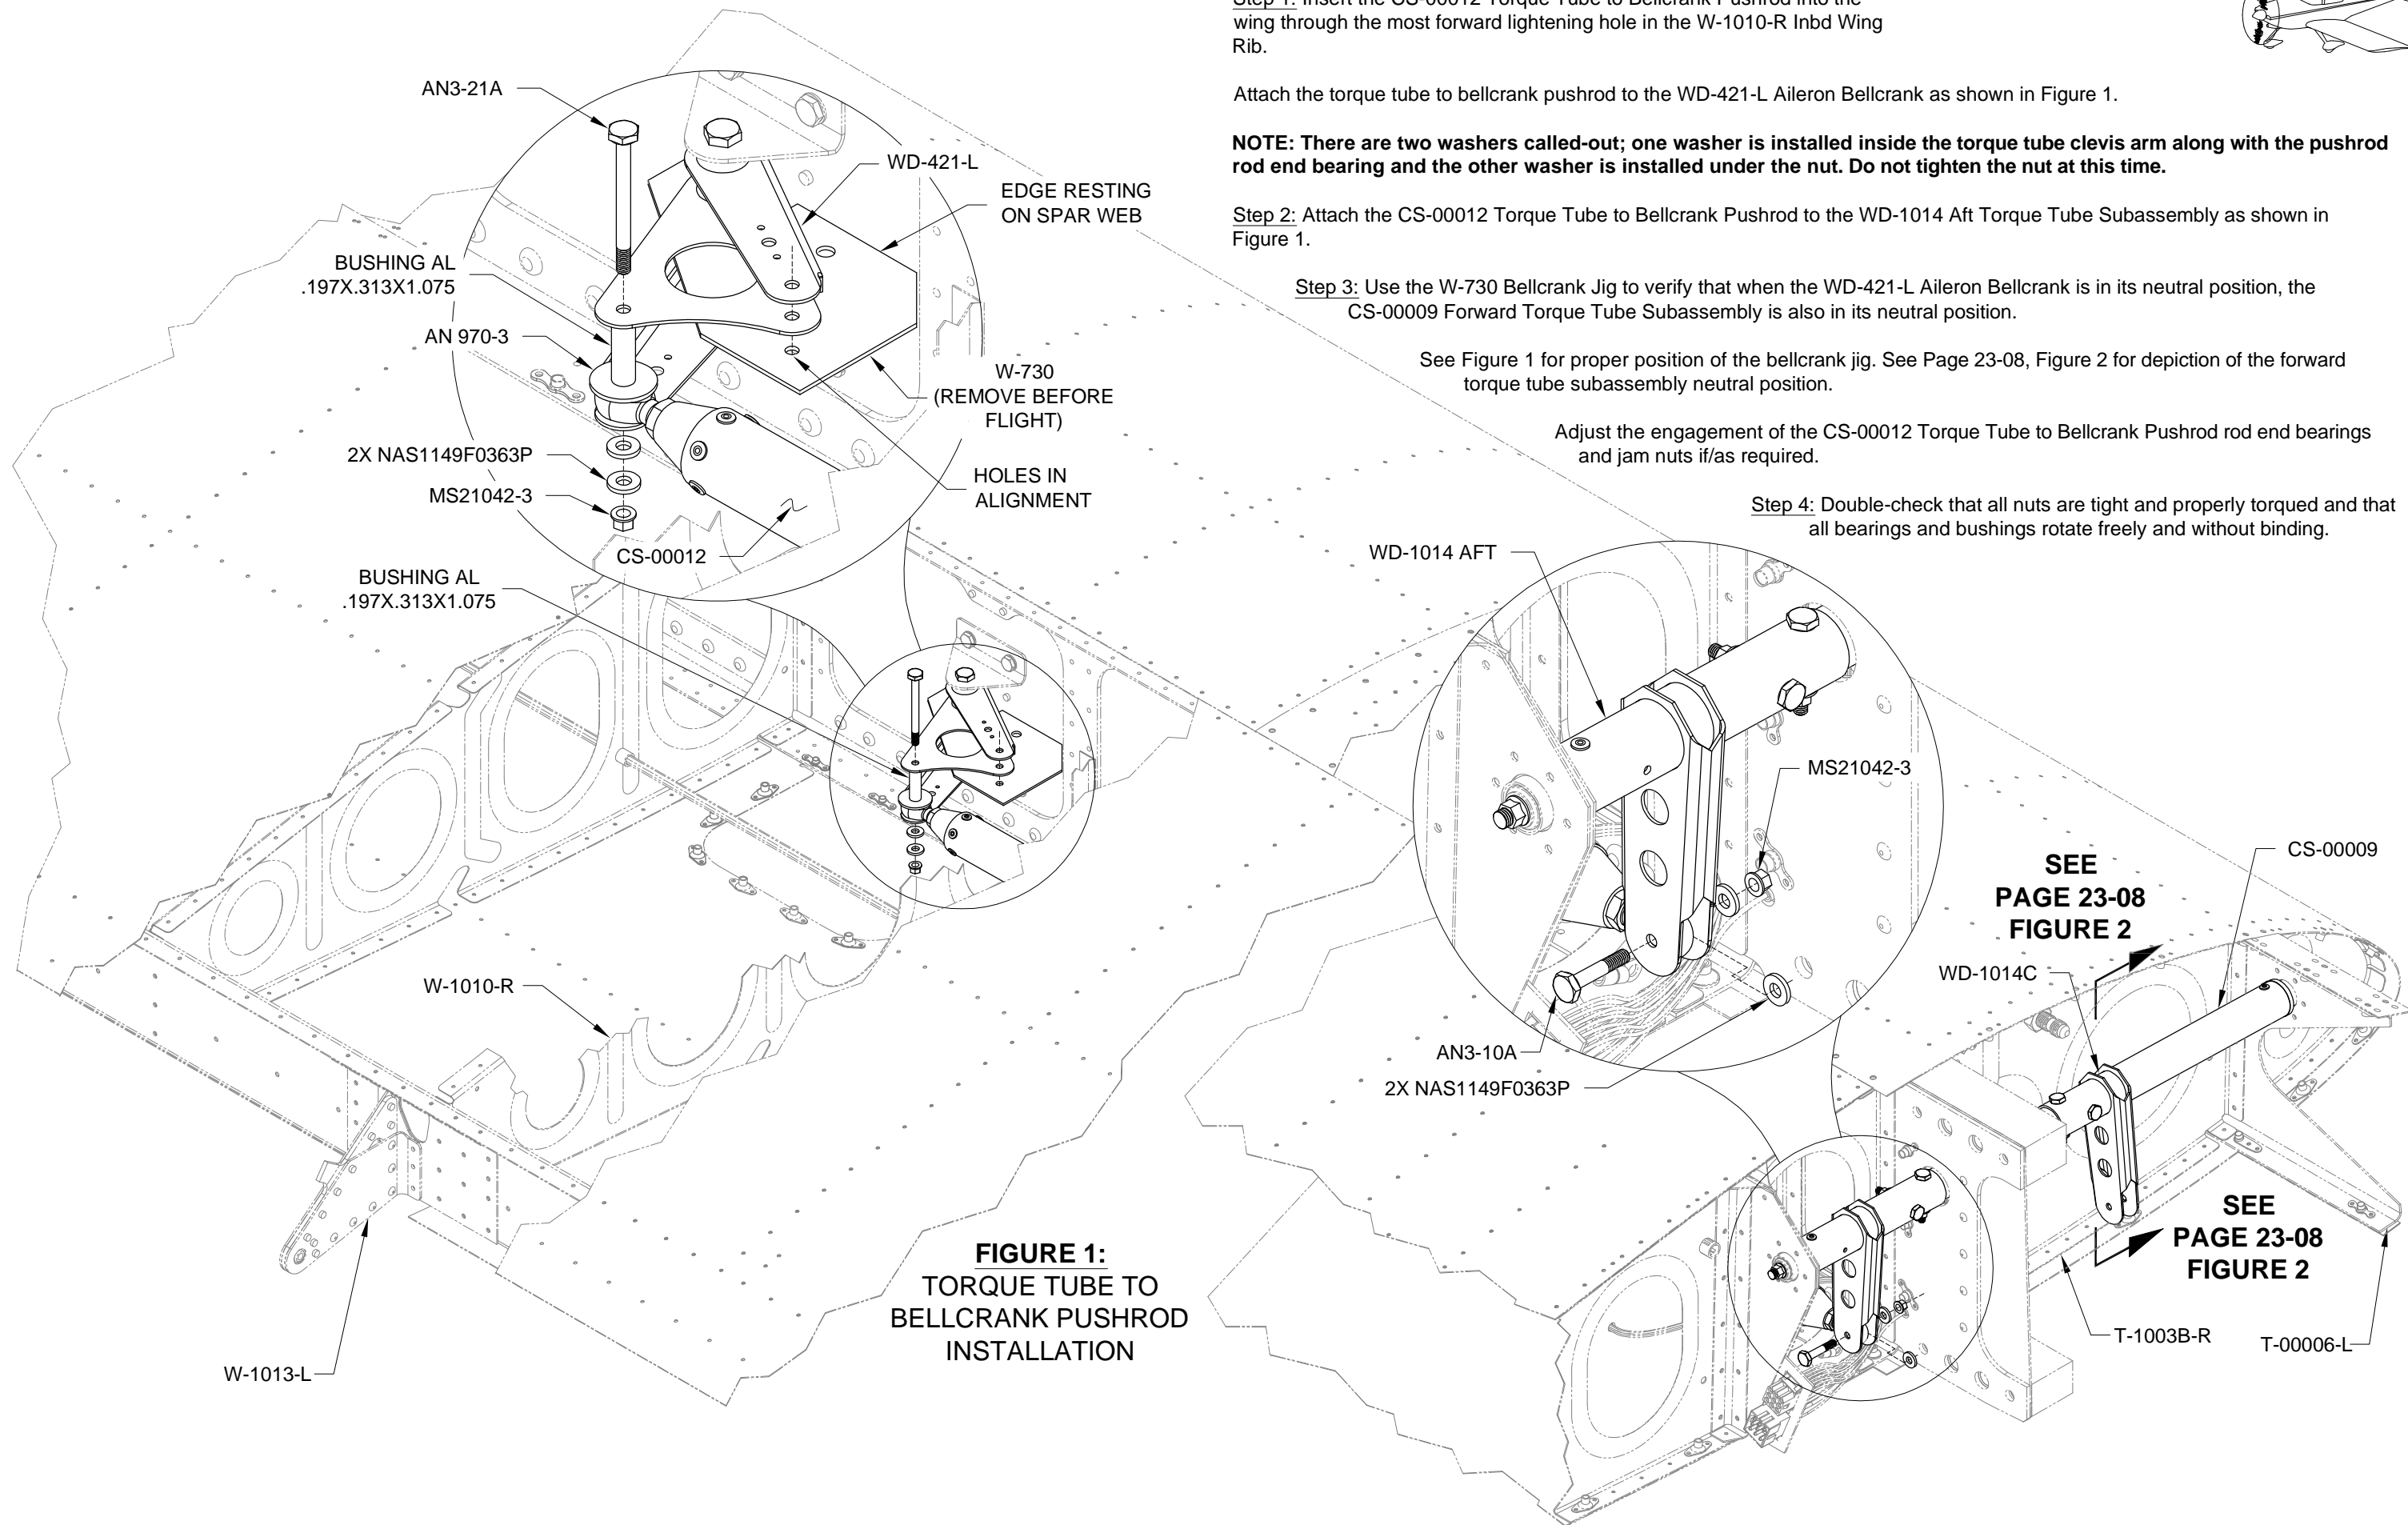

FIGURE 1:
Attach the torque tube to bellcrank pushrod to the WD-421-L Aileron Bellcrank as shown in Figure 1.
Step 2: Attach the CS-00012 Torque Tube to Bellcrank Pushrod to the WD-1014 Aft Torque Tube Subassembly as shown in Figure 1.
See Figure 1 for proper position of the bellcrank jig. See Page 23-08, Figure 2 for depiction of the forward torque tube subassembly neutral position.